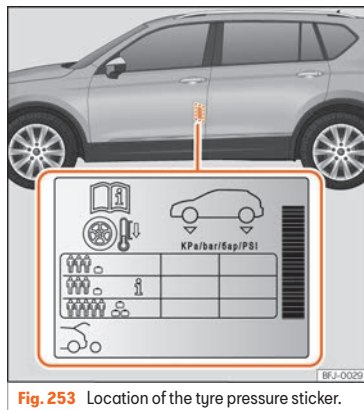

Fig. 253 Location of the tyre pressure sticker.
- Adjust tyre pressure to the load being carried by the vehicle » **Fig. 253**.
The tyre inflation pressures are listed on a sticker on the rear of the front left door frame »» Fig. 253.
Depending on the vehicle, tyre pressure can be adjusted to medium load to improve driving comfort (tyre pressure **i**) »» Fig. 253). When driving with comfort tyre pressure fuel consumption may increase slightly.
The tyre pressure must be adjusted according to the load the vehicle is carrying. If the vehicle is going to carry the maximum load, the tyre pressure should be increased to the maximum value indicated on the sticker »» Fig. 253.
In the case of a minimised temporary spare wheel (**j**), inflate to a pressure of 4.2 bar as indicated on the tyre pressure label »» Fig. 253.
ded tyre pressure is indicated on the label »» Fig. 253.
- **When the tyres are cold, tyre pressure should be that indicated on the label »» Fig. 253.**